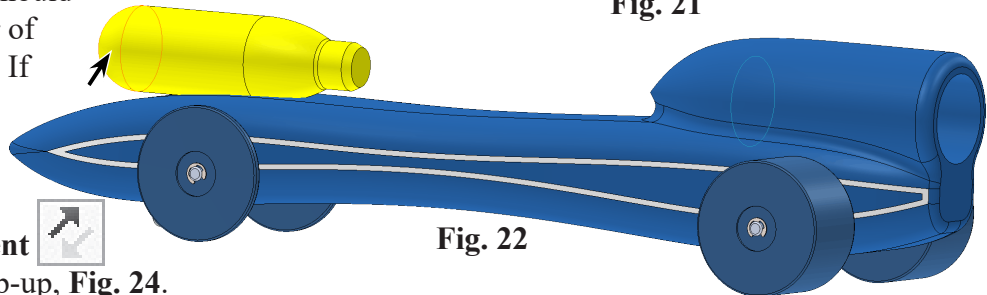

Fig. 22
Step 5. Rotate view to view **bottom of Cartridge**, Fig. 22.
Step 6. Click **bottom face of Cartridge**, Fig. 22.